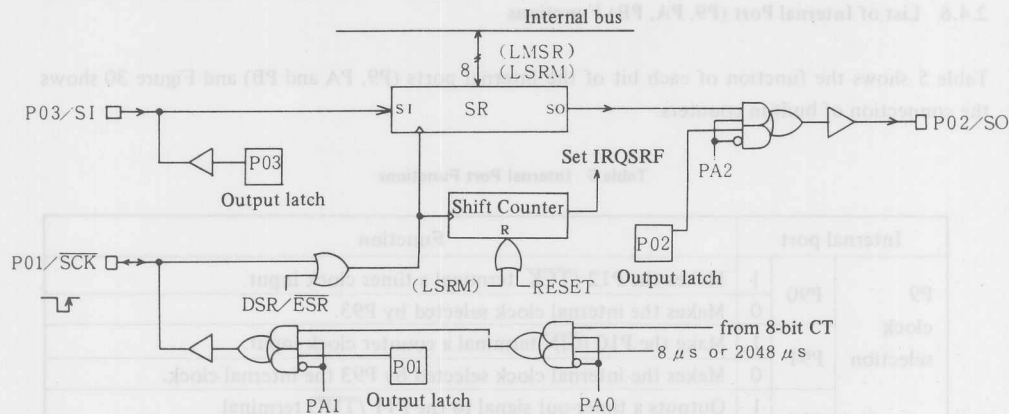

Fig. 28 Construction of Shift Register
The shift register (SR) consists of an 8-bit shift register, 3-bit shift counter and control circuit. It is used for serial data input/output. Figure 28 shows its construction.